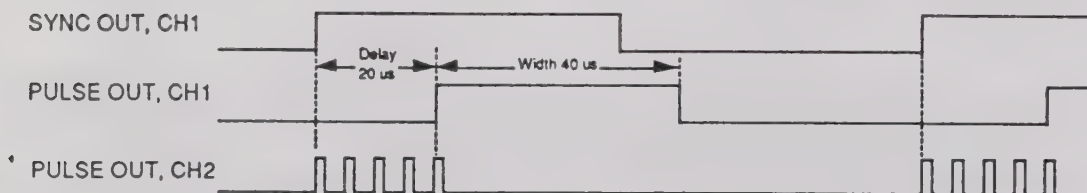

Figure 3-21. Channel 1 Delay Signal to STRIG Bus
10. Observe that channel 2 is now gated "on" by the delay signal from channel 1. Refer to figure 3-21 for timing relationships.